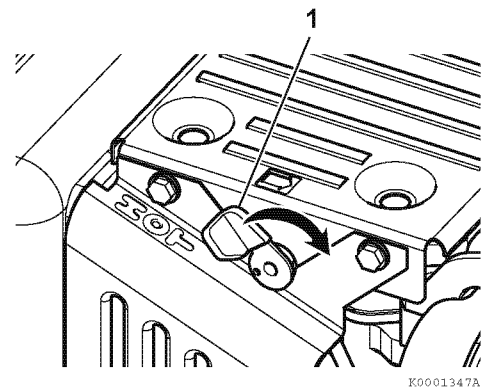

Figure 7
This engine is equipped with a decompression lever (1, Figure 7).
4. Push the decompression lever (1, Figure 7) down and release it. The decompression lever will automatically return to the original position when the engine starts.
Some L-V model engines are equipped with an automatic, internal compression release mechanism and do not have the decompression lever (1, **Figure 7**). In this case, follow the procedure below.